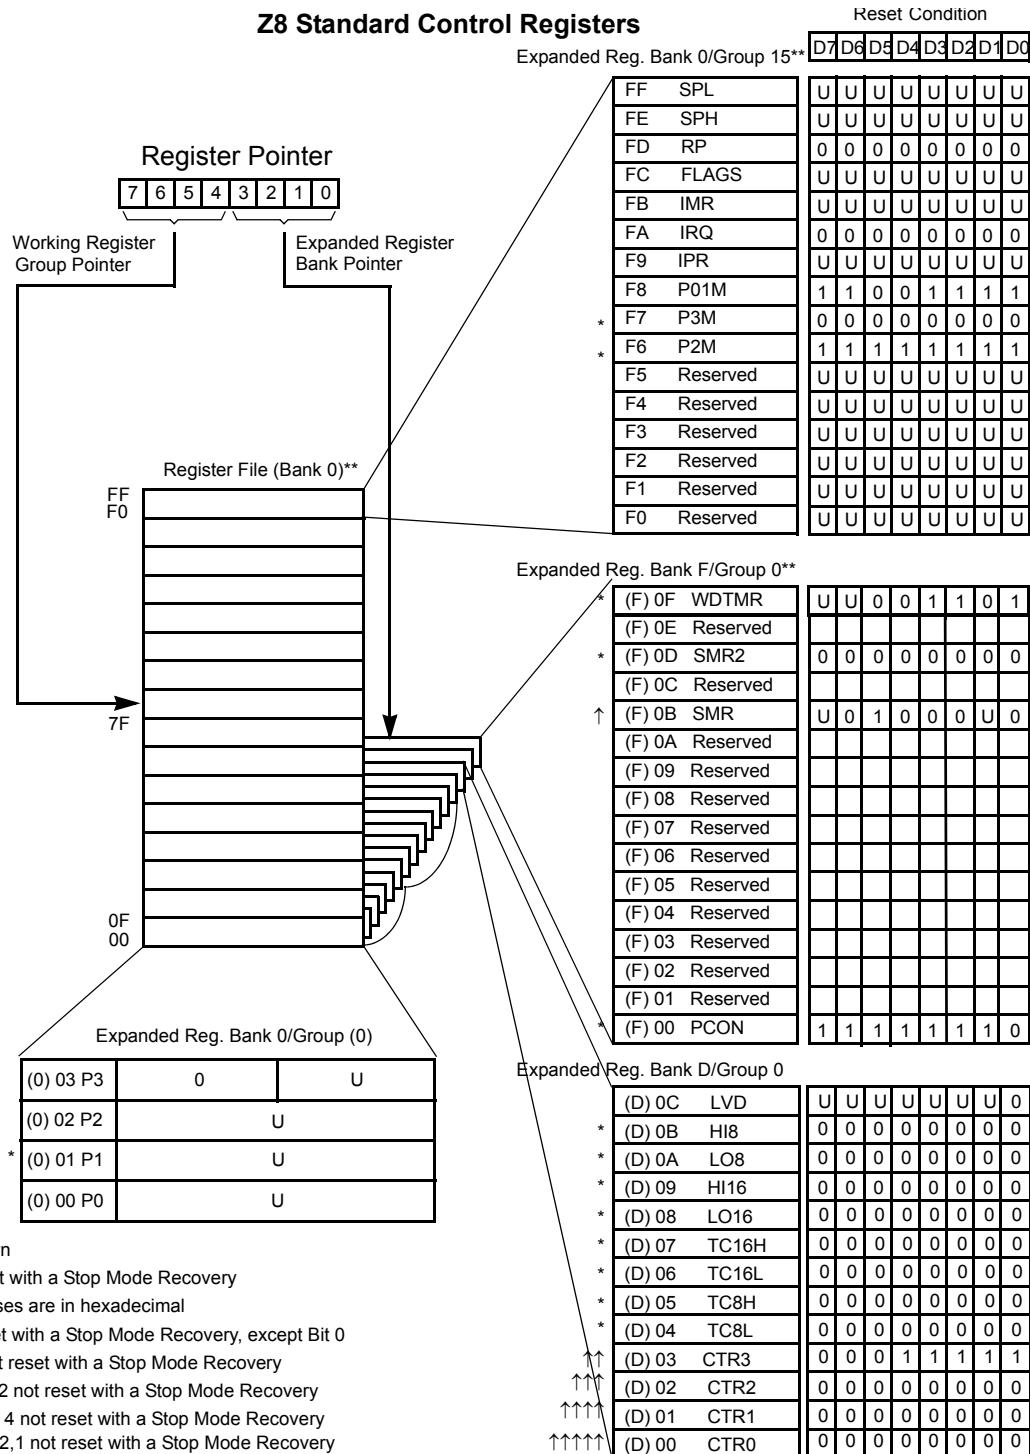

Figure 13. Expanded Register File Architecture
- **Note:** *An expanded register bank is also referred to as an expanded register group (see Figure 13).*
Example: Z8 GP: (See Figure 13 on page 22)